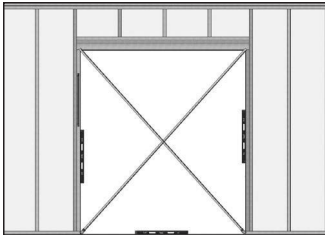

FIG. 4
- B) Verify the rough opening is plumb, level and square. For doors with clad exterior casings, additional nailer studs may be required around the perimeter of the rough opening. (Fig. 4)
- C) Take diagonal measurements to check for square. (Fig. 4)
- D) Make sure the bottom sill area of the rough opening is flat and level. Correct rough opening if sloped toward the interior, out of level, or humped. (Fig. 4) **Sill must be within 1/8" of level for every 10' of sill length.**
- D) The post interlock seals the doors to the building and are supplied with the unit. They also require a continuous plane of building material for mounting. (Fig. 4)